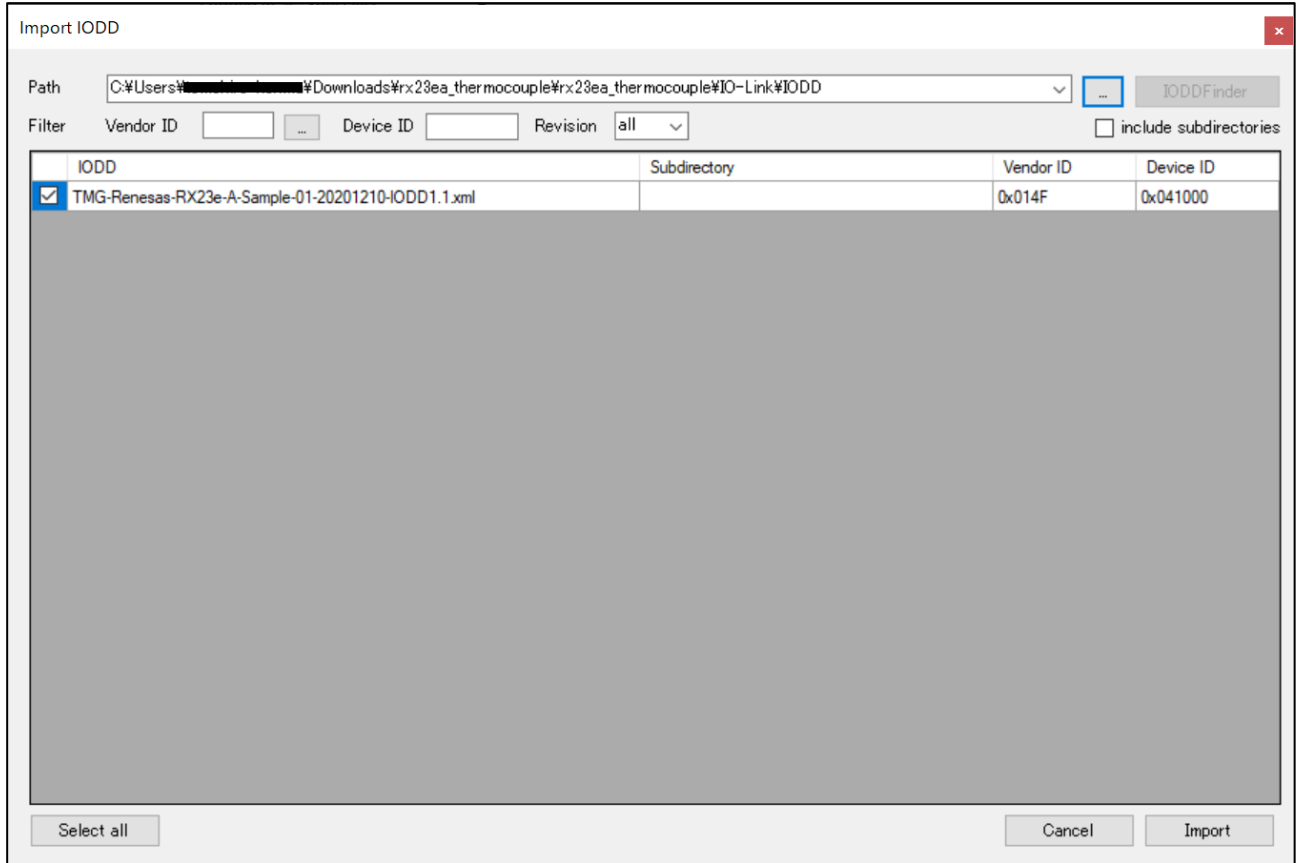

Figure 5-3 IO-Link Device Tool V5.1 – PE (Loading IODD file)
2. Enter the path or select the folder that contains the IODD file. The IODD file of this sample application is located in the "IODD" folder in the included sample project file. IODD files are auto-detected, as shown in Figure 5-3.